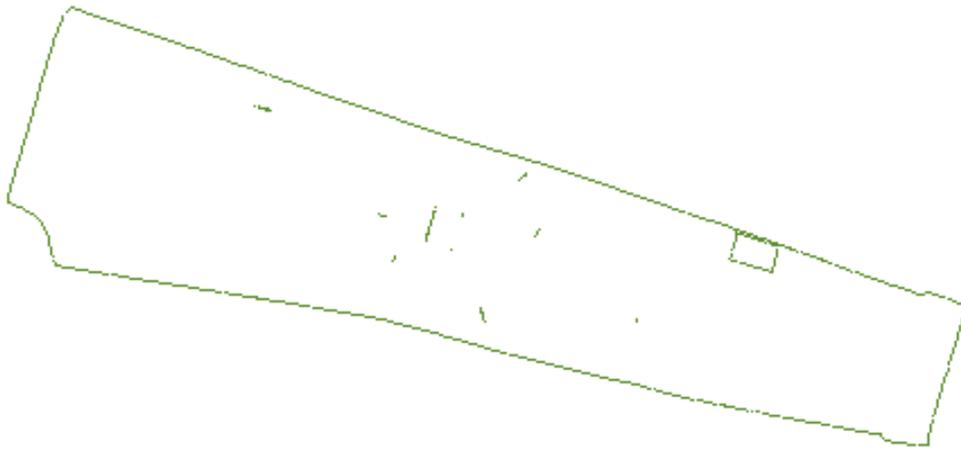

Figure 15. Visualization of the mesh generation using the option Mesh->View mesh boundary .
- 2 After generating the mesh, select **Mesh->View mesh boundary**. This will result in the image pictured in Figure 15.